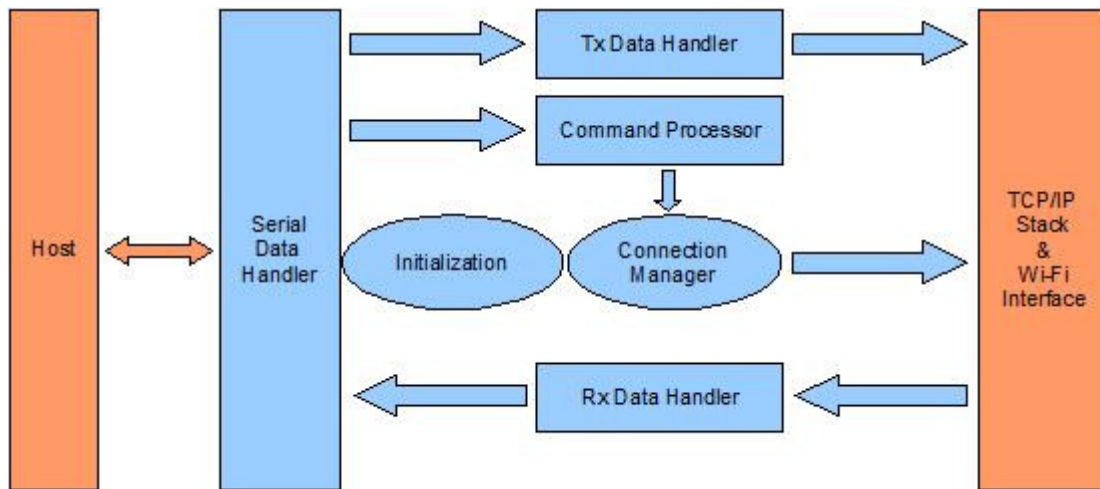

Figure 1: Overall Architecture of the Adapter
- Figure 1: Overall Architecture of the Adapter 8
The overall architecture of the IP2WiFi interface is depicted in Figure 1. Tx and Rx Data Handlers pass messages to, and from, the Wi-Fi interface. Commands related to management of the IP2WiFi interface and the network connections are intercepted by a Command Processor. A Serial Data Handler translates data to and from a UART/SPI-compatible format.